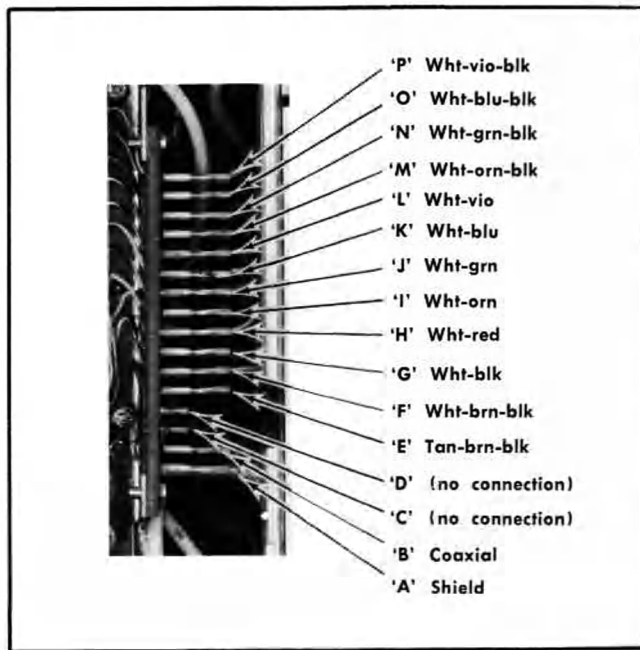

Fig. 4-6. Wire and cable color code to the honeycomb pin connectors.
5. Insure that none of the terminals and tie points are shorted or grounded. Reconnect any cables or wires that may be disconnected. Fig. 4-6 illustrates wiring color code. Apply power if desired. The ground-wire on the DISPERSION RANGE switch must be grounded for proper operation of the instrument. Fig. 4-2 illustrates the component layout and circuit layout on the honeycomb chassis.